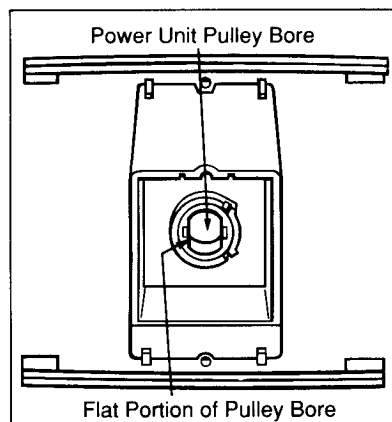
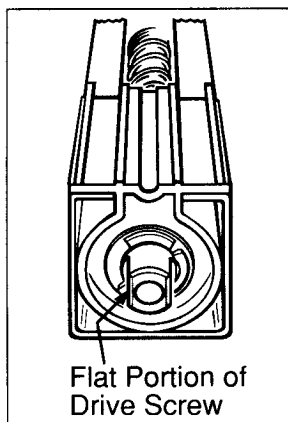

Figure 4
Figure 5
Step 6: Align the flat pulley bore in power unit (see Figure 4), with the flat portions of the drive screw (see Figure 5).